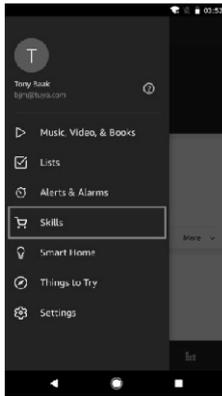
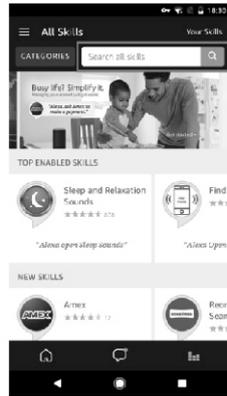

fig.17
fig.18
- Select the “Menu” option in the top left corner and select “Skills” (fig.17), and then search “Igenix” in the search bar (fig.18).
3. Connect the drain hose (Fig.17)